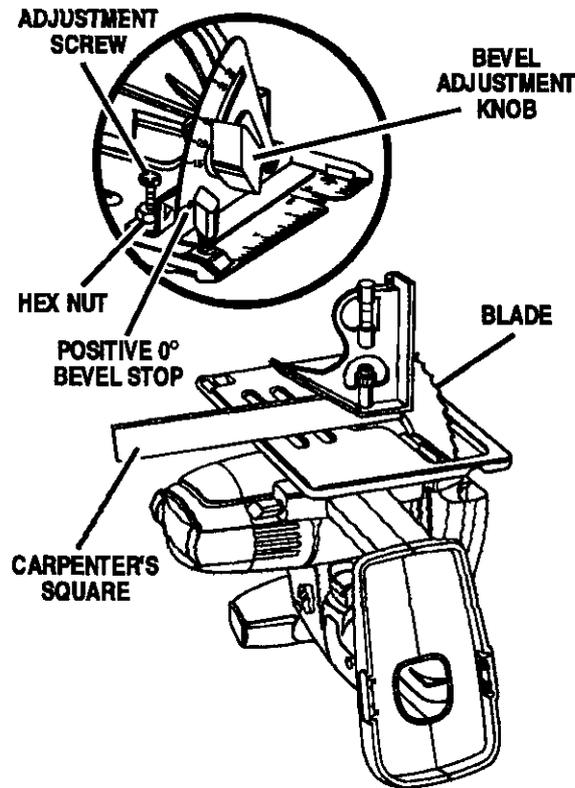

Fig. 24
See Figure 24.
- Place your saw in an upside down position on workbench. See Figure 24.